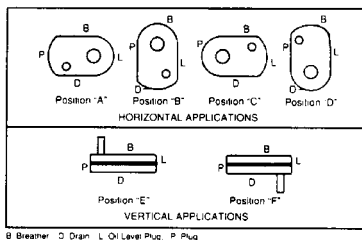

Fig. 1 - Mounting Positions
2. Determine the running position of the reducer. (See Fig. 1) Note that the reducer is supplied with either 4 or 7 plugs; 4 around the sides for horizontal installations and 1 on each face for vertical installations. These plugs must be arranged relative to the running positions as follows:
The running position of the reducer in a horizontal application is not limited to the four positions shown in Figure 1. However, if running position is over 20° either way from sketches, the oil level plug cannot be safely used to check the oil level, unless during the checking the torque arm is disconnected and the reducer is swung to within 20° of the positions shown in Figure 1. Because of the many possible positions of the reducer, it may be necessary or desirable to make special adaptations using the lubrication fitting holes furnished along with other standard pipe fittings, stand pipes and oil level gages as required.
† Refer to Fig. 1 on page 2 for mounting positions.
Note: If reducer position is to vary from those shown in Figure 1 either more or less oil may be required. Consult factory.